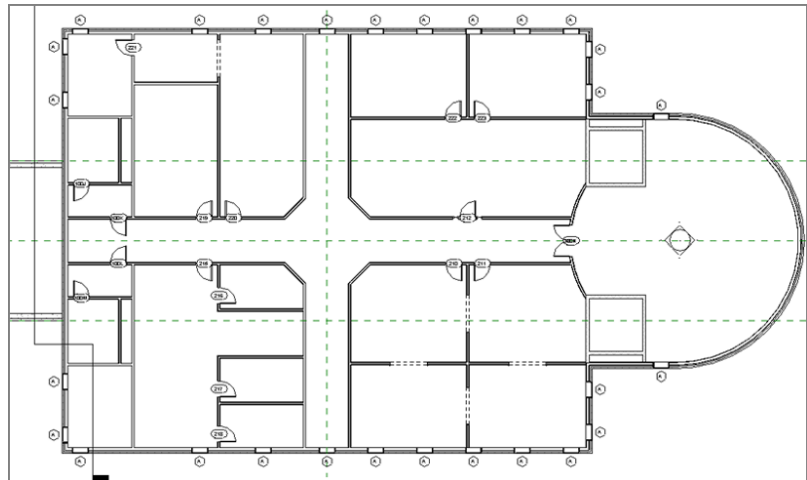

FIGURE 4.57: Level 3: This floor plan was mostly copied from Level 1, with the exception of the northwest corner.
9. Go to Level 3, and create a floor plan similar to Figure 4.57. You can do this by using Paste > Aligned To Selected Levels from Level 1. The floor plans are identical, other than the wall configuration in the northwest corner.